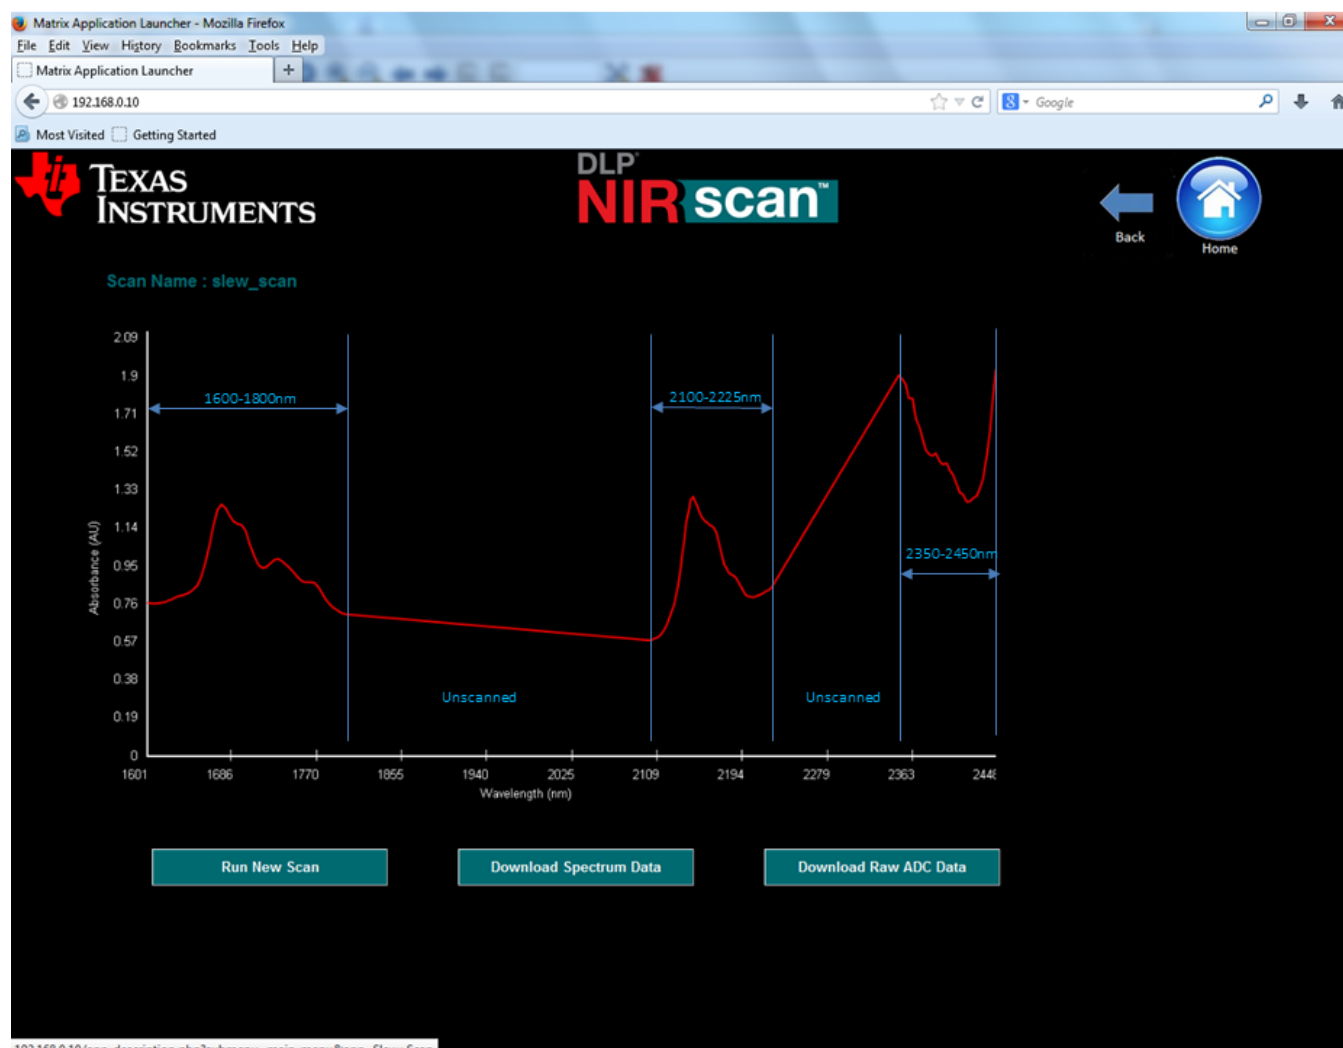

Figure 3-9. Example Slew Scan
Below are the steps to setup and execute a Slew Scan. This example uses 3 regions which are not contiguous, have different exposure times per pattern in each region, and different digital resolutions for each region. The configuration is located above in Figure 3-8. Graphical output results are shown below in Figure 3-9
The graphical representation in Figure 3-9 shows the absorbance spectrum of the sampled material, with absorbance units (AU) on the y-axis and wavelength on the x-axis. The 3 regions of interest are highlighted in blue and the two regions not of interest are identified with the word "unscanned". Each scanned region is measured based on the configuration information supplied for that region. For unscanned spectral regions not configured in the configuration table, the graphical output shows a straight line from the last wavelength in region N to the first wavelength in region N+1.